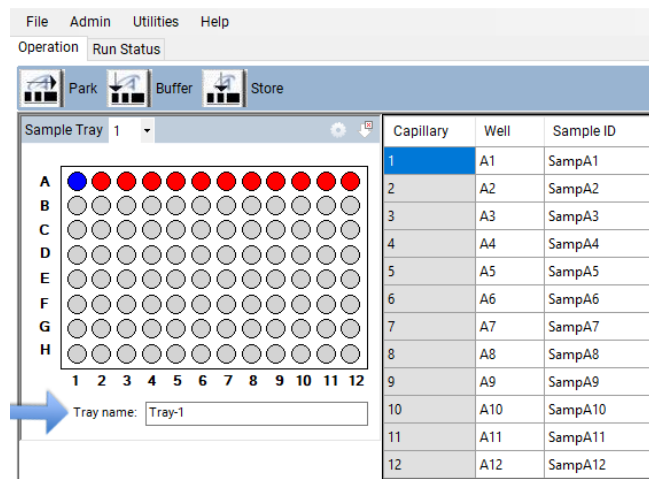

Figure 92 Highlight of the tray name
- In the field **Tray name** of the **Operation** tab, highlight the tray name with the mouse cursor (Figure 92).